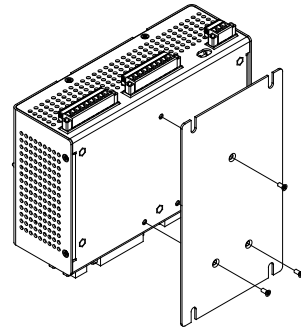

Figure 2: Bulkhead Mount
- 02 Bulkhead Mount (see Figure 2)